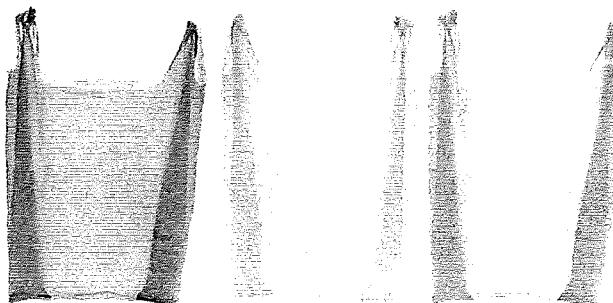

Figure 2 : Grocery plastic bag film
7. (a). Figure 2 shows grocery plastic bag film manufactured using a conventional plastic processing equipment.